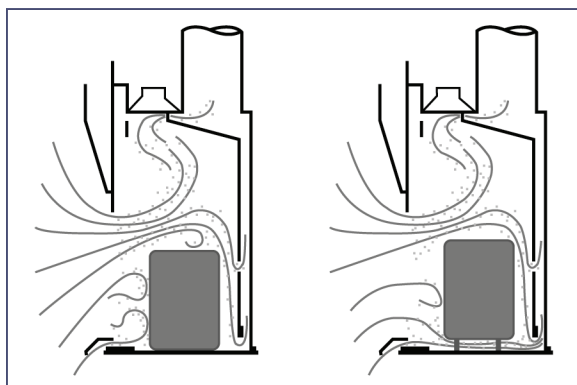

Figure 4. The effect on air currents of large equipment blocking the rear exhaust slots.
13. Do not block the slots in the hood baffle with containers or apparatus. Place equipment on blocks, jack stands or legs, so that air can flow underneath the equipment to the bottom slot of the baffle. (Figure 4)